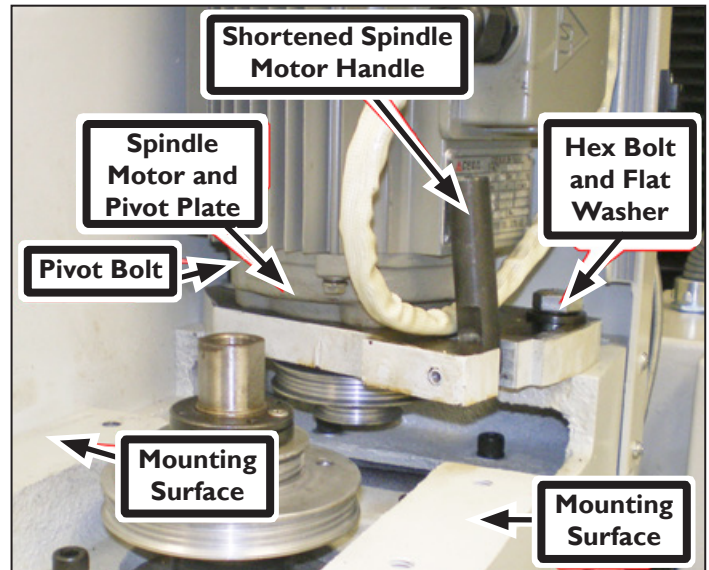

Figure 6
1. Make sure the Mounting Surfaces are free of burs and debris (see **Figure 6**). If necessary, clean the surfaces.